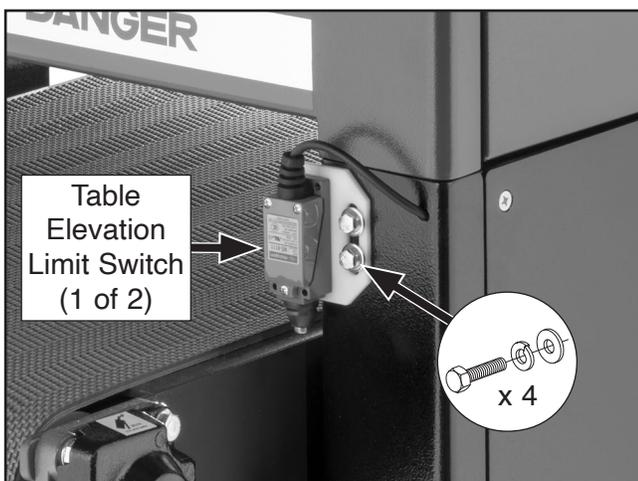

Figure 107. Location of table elevation limit switches and securing fasteners.
- Remove (4) hex bolts, lock washers, and flat washers shown in **Figure 107** to remove table elevation limit switches.